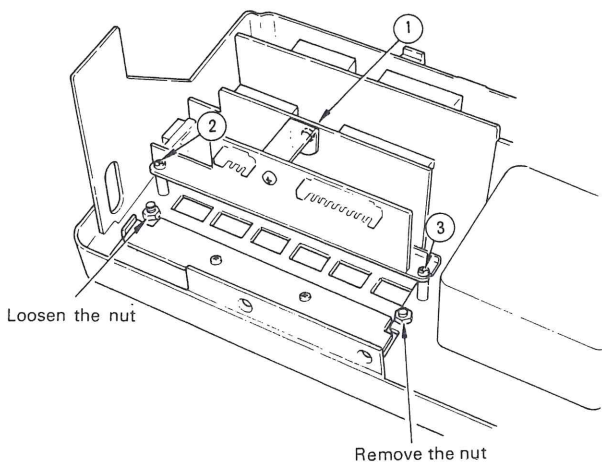

Fig. 4
- 3) Remove the 3 screws shown in Fig. 4, then remove the 6 Key Switch Unit.
- 4) Remove the nut which holds the Band Switch ASSY in place as shown in Fig. 4.